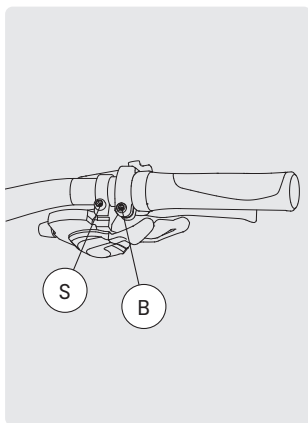

FIG. 25
- 1 Loosen the hexagon socket screws S and B on the shift and brake lever (Fig. 25).